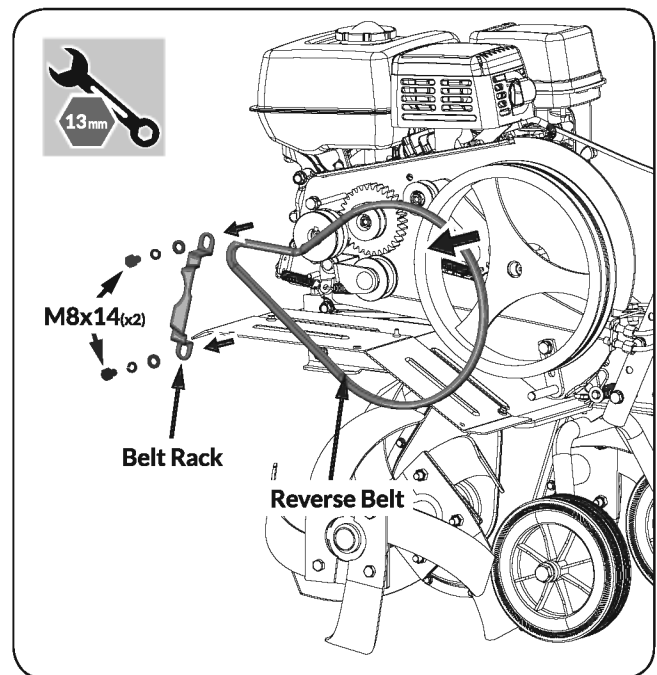

Figure 19
4. Unscrew the bolts M8x14 and washers, remove the belt rack, then take the reverse clutch belt off. (See **Figure 19**)